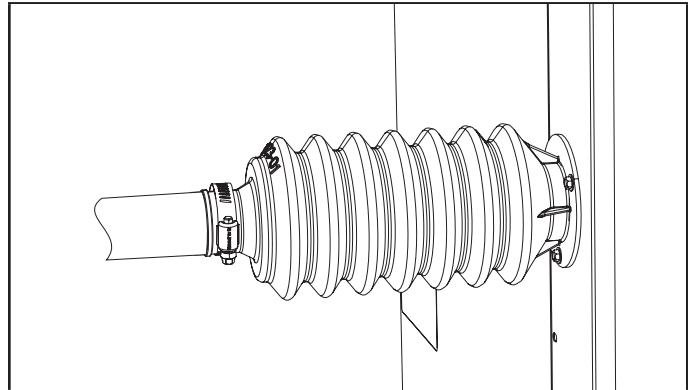

FIGURE 6. Band Clamp Installed on Sleeve
Connect the properly-sized field-provided liquid line to the liquid line stub as shown in figure 6 using the following procedures:
- 3 - Position the band clamp as shown in figure 6 and torque to 35 in-lbs to seal sleeve to line set.
- 2 - Position the band clamp as shown in figure 6 and torque to 35 in-lbs to seal sleeve to line set.